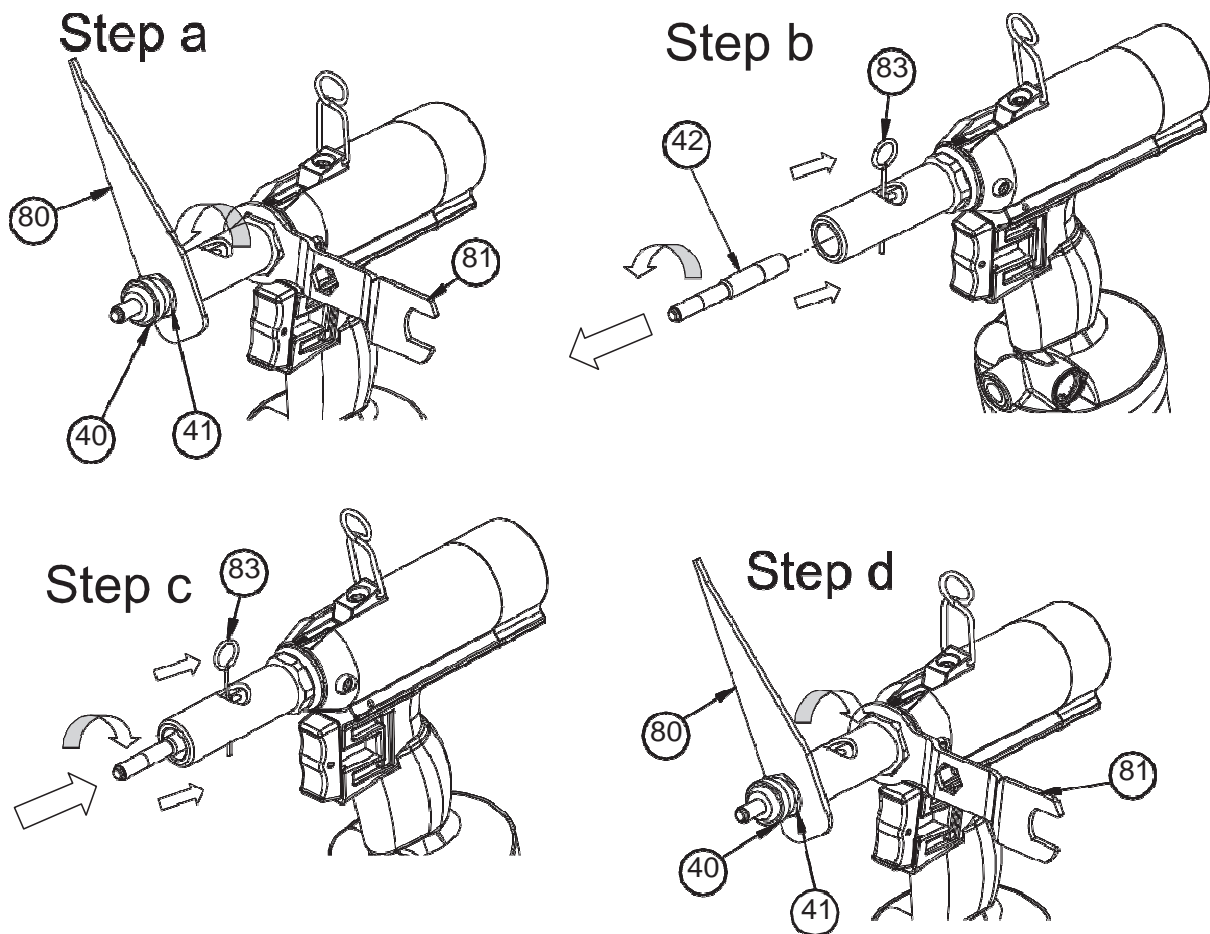
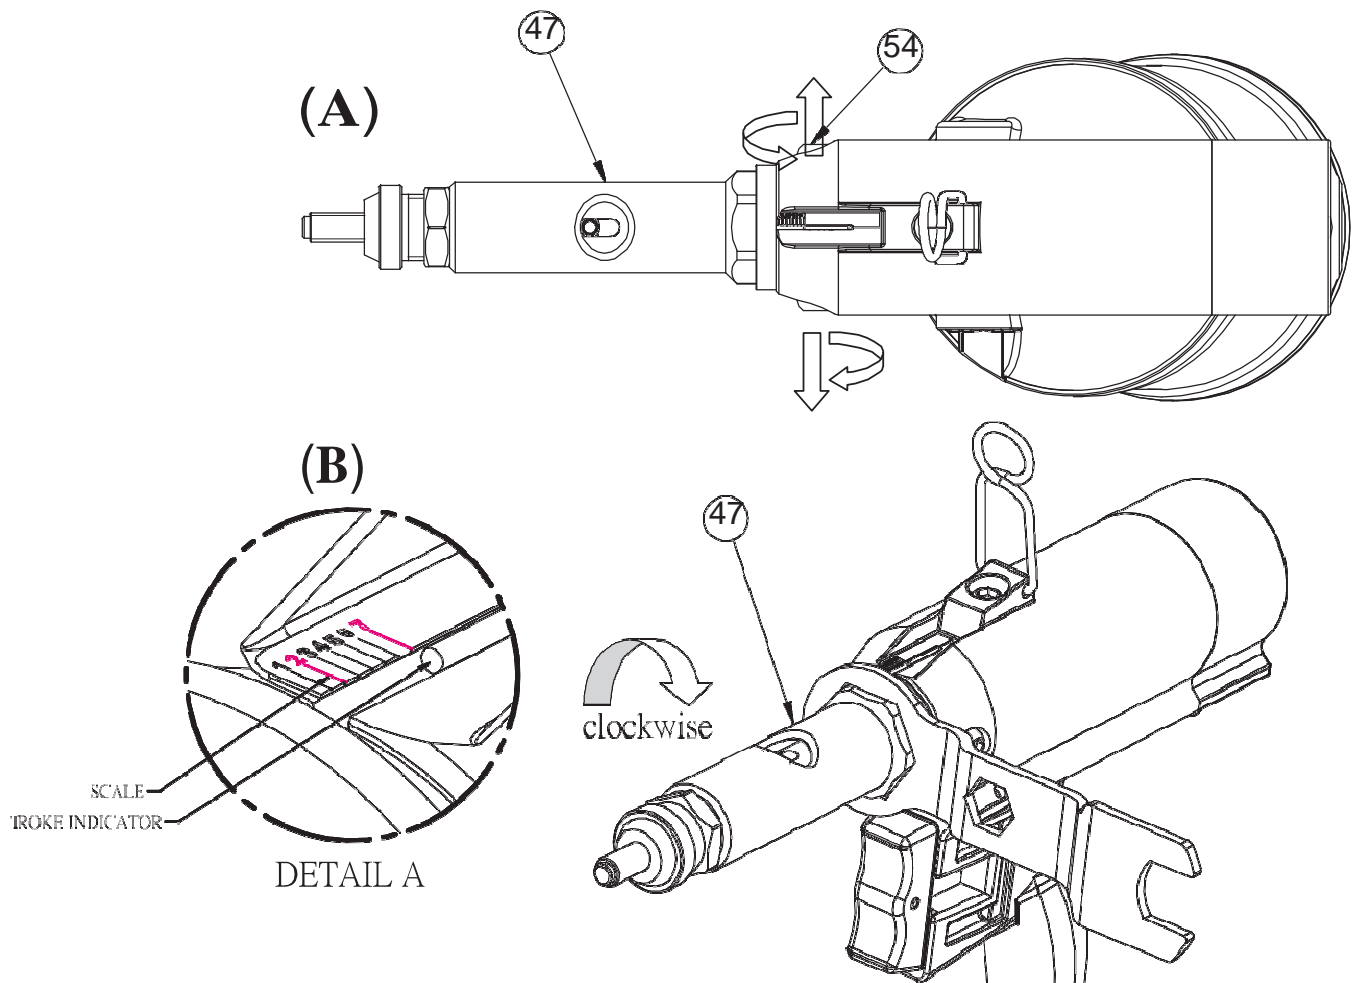
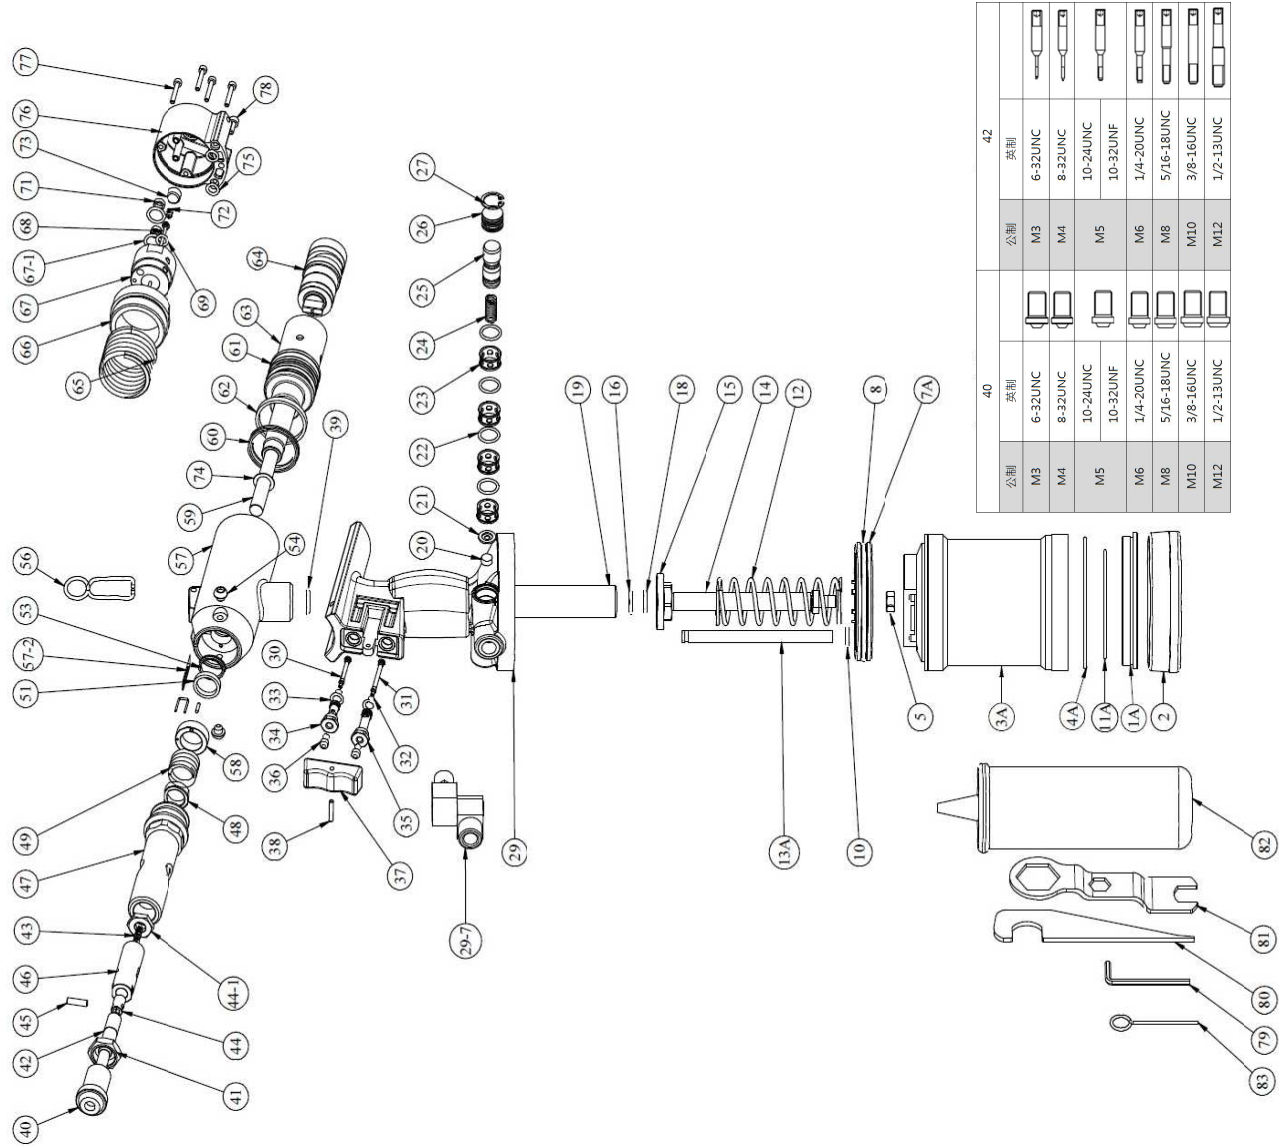

Fig. 2 Detail illustration of Anvil, Anvil Lock Nut,
Fig. 3 Detail illustration of Stroke Adjustment.
Fig. 6 EXPLODED VIEW OF AIR RIVET NUT TOOL
- a. Loosen the anvil lock nut (Index 41 in figs. 2 & 6) with the spanners (Index 80,81 in Figs. 2 & 6) , and remove the anvil (Index 40, 41 in Figs. 2 & 6) from the housing as shown in Fig. 3;
- b. Insert the eye lever supplied into to the tooling hole and apply a light pressure inwards, in order to parts from the tie-rod clutch. At the same time unscrew the tie rod (Index 42 in Figs. 2 & 6) and extract it;
- d. Then assemble the proper anvil and the anvil lock nut) Index 40,41 in Figs. 2 & 6), and tighten the lock nut with the spanners (Index 80,81 in Figs. 2 & 6).
- Loosen the nose piece (Index 47 in Figs. 3-(A) & 6) set screw first (Index 54 in Figs. 3-(A) & 6);
- Rotate the nose piece (Index 47 in Figs. 3-(A,B) & 6) to obtain the desired pull-up stroke. As shown in Figs. 3, the stroke of pull-up decreases with the stroke adjustment turning in the positive direction (clockwise) and vice versa.
- Adjust the nose piece follow the scale of sticker (Figs. 3-(B), every turn has adjust 1.5mm
- Fasten the nose piece's set screw (Index 54 in Figs. 3-(A) & 6).
- When use the rivnut under the size as M3,M4, M5, M6, 6-32UNC , 8-32UNC , 10-24UNC, must adjust No.57-1 part in Fig 3 & Fig 6 and limit the stroke as 2 mm and then try it, not allow directly using the maximum stroke of 7 mm to pulling it, to avoid the broken of pulling pole.